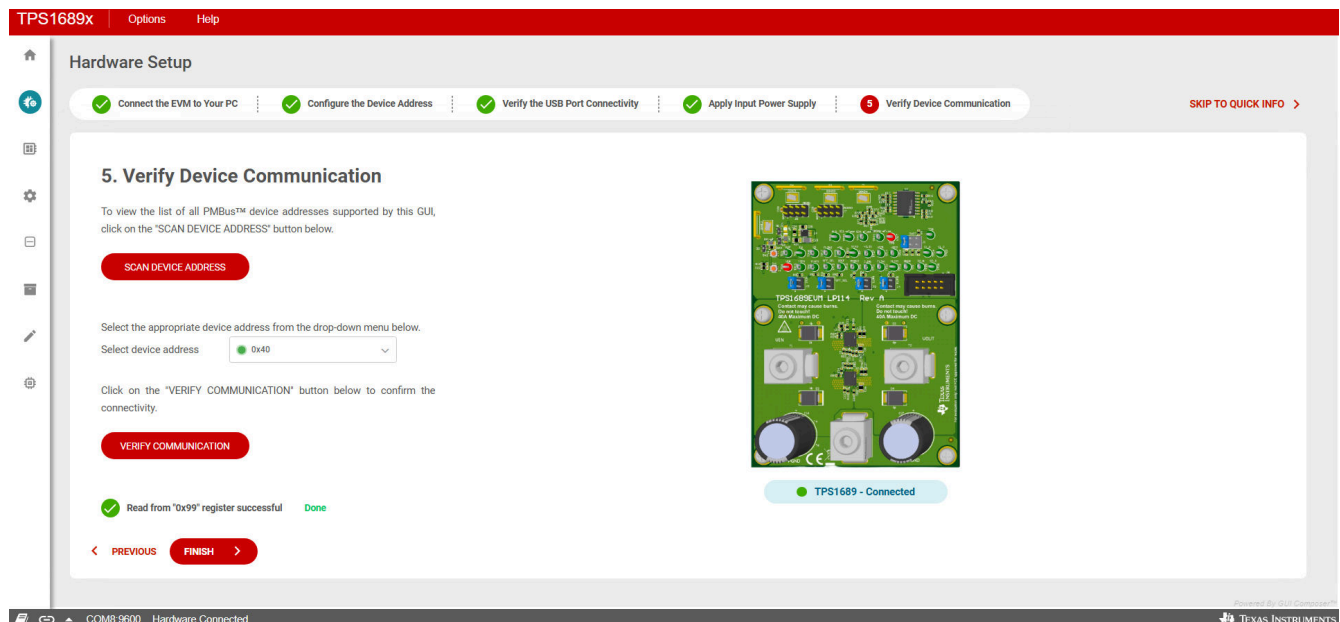
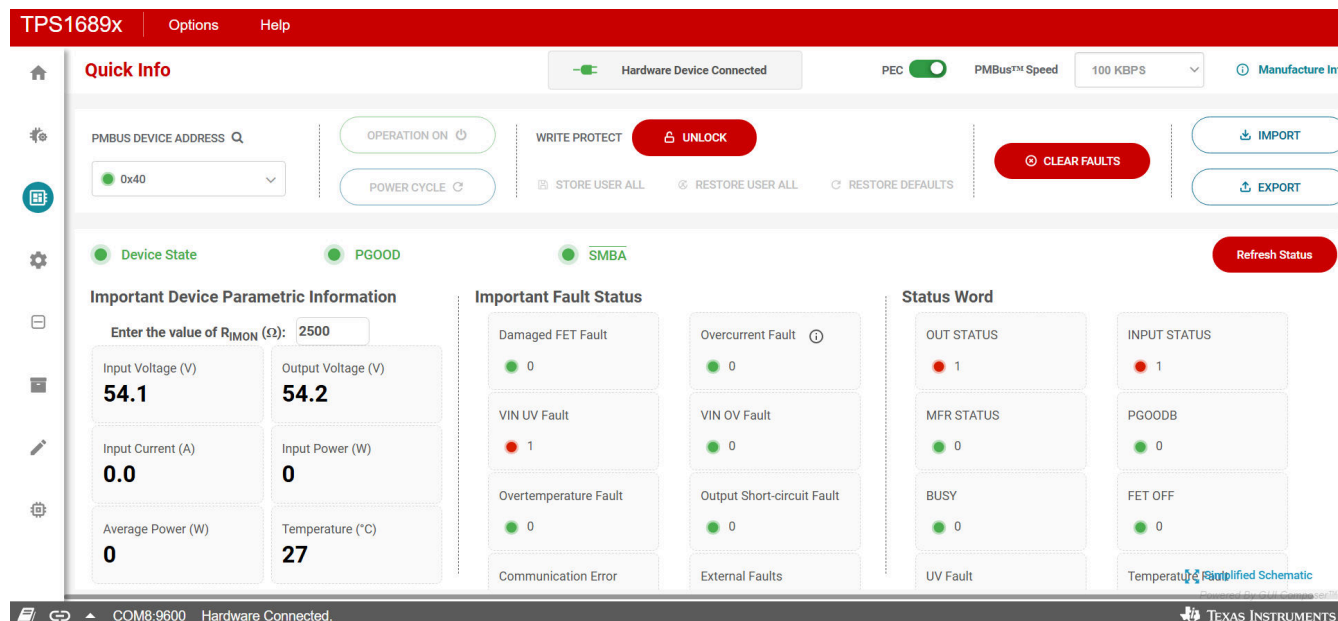

Figure 4-4. TPS1689EVM-GUI: Verify Device Connectivity
Figure 4-5. TPS1689EVM-GUI: Quick Info
Make sure to go through the all the steps carefully and verify the device communication at Step-5 on the *Hardware Setup* page as shown in Figure 4-4, after completing all the previous four steps as outlined.
As presented in Figure 4-5, users reach to the *Quick Info* page after clicking on the *FINISH* icon upon verifying the device communication, depicted in Figure 4-4. As shown in Figure 4-5, this page can also be accessed by clicking on the *Quick Info* icon on the left side of the GUI. The *Quick Info* page provides the following features.
A correct value of input current (A) and input power (W) can only be obtained by updating R_{IMON} in the GUI (as pointed out by placing a RED circle in Figure 4-5) so that it matches the resistance placed at the IMON pin on the EVM.